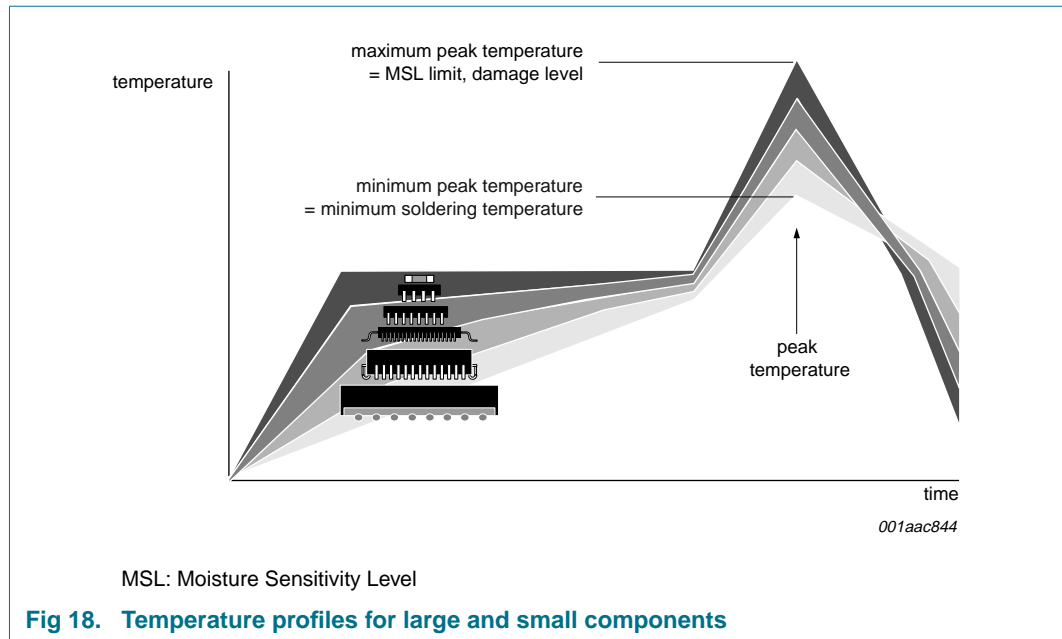

Fig 18. Temperature profiles for large and small components
- Lead-free versus SnPb soldering; note that a lead-free reflow process usually leads to higher minimum peak temperatures (see Figure 18) than a PbSn process, thus reducing the process window
Studies have shown that small packages reach higher temperatures during reflow soldering, see Figure 18.